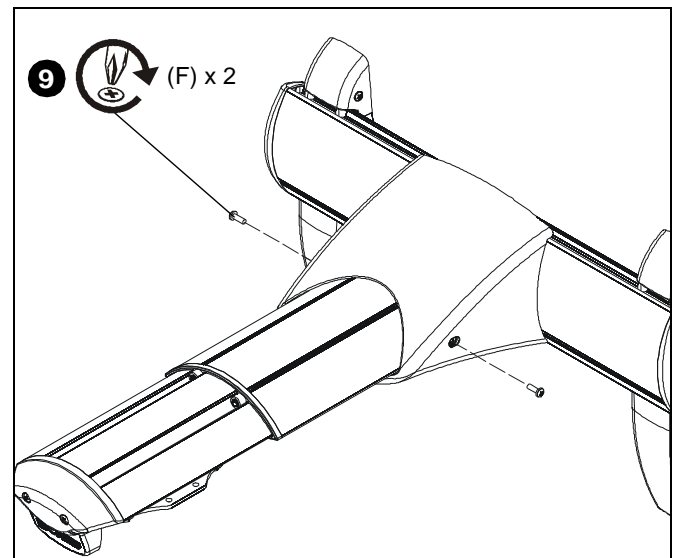

Figure 37
- Reinstall two #8-32 x 1/2" Phillips pan machine screws (F) through holes on sides of outer cover. (See Figure 37)
2. Adjust mount to desired extension length. (See Figure 37)